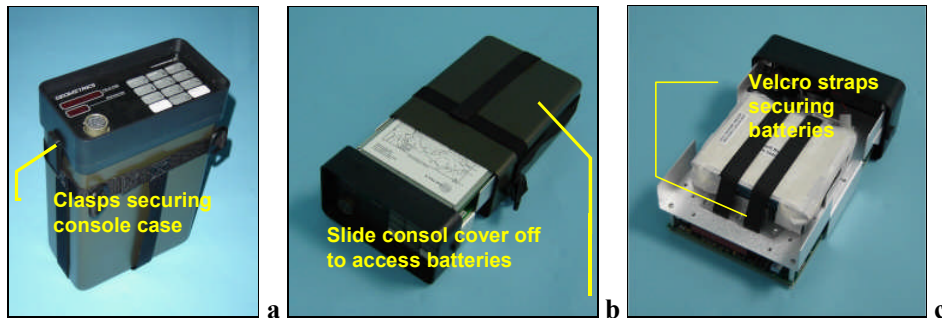

Figure 5. Console battery compartment.
- 4) Remove the console cover by flipping the plastic tabs on its sides outward and sliding the cover completely off as shown in Figure 5 \a and b. Depending on the G-856AX version either a) Install fresh D-cell alkaline batteries or b) connect the internal rechargeable gel-cell battery. Gel-cell batteries are held in place with Velcro straps as shown in Figure 5c. Reinstall the cover before proceeding.